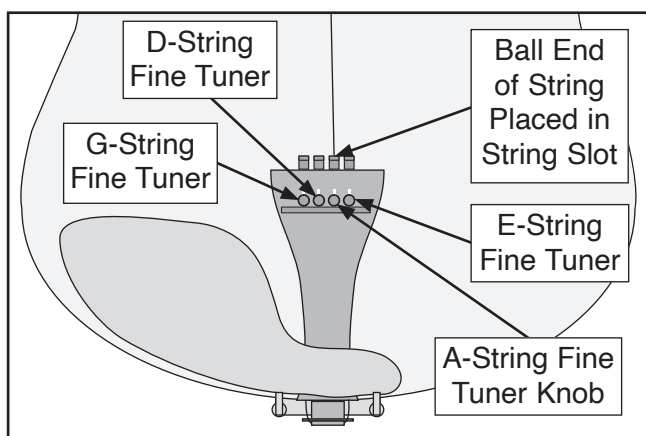

Figure 25. String placed in tuner slot for A-string.
5. Place ball end of string into fine tuner slot (see **Figure 25**).